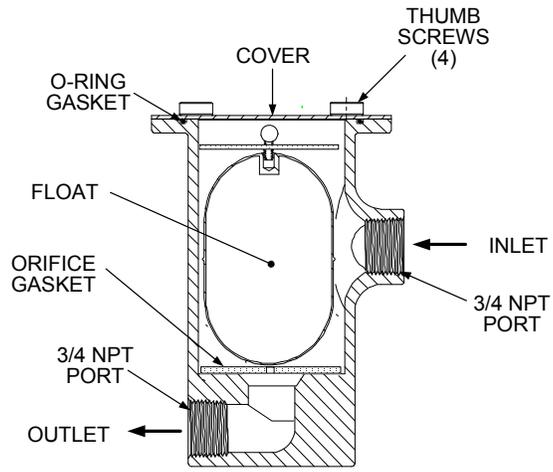

Figure 11. Condensate Trap Part No. 24060
1. Remove the connections on the inlet and outlet sides of the condensate trap shown in Figure 11.
2. Refer to Figure 11 and loosen the four (4) thumbscrews securing the cover on the condensate trap. Remove the cover.